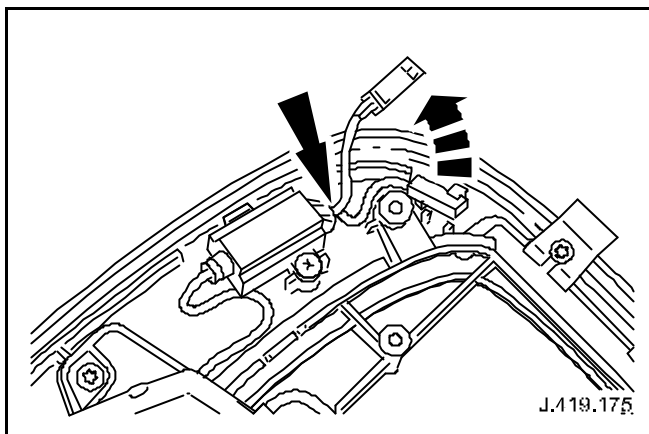

Fig. 5
- 14 Cut, as close to filter as possible, and discard old microphone electrical connector and fly lead (see Fig. 5).